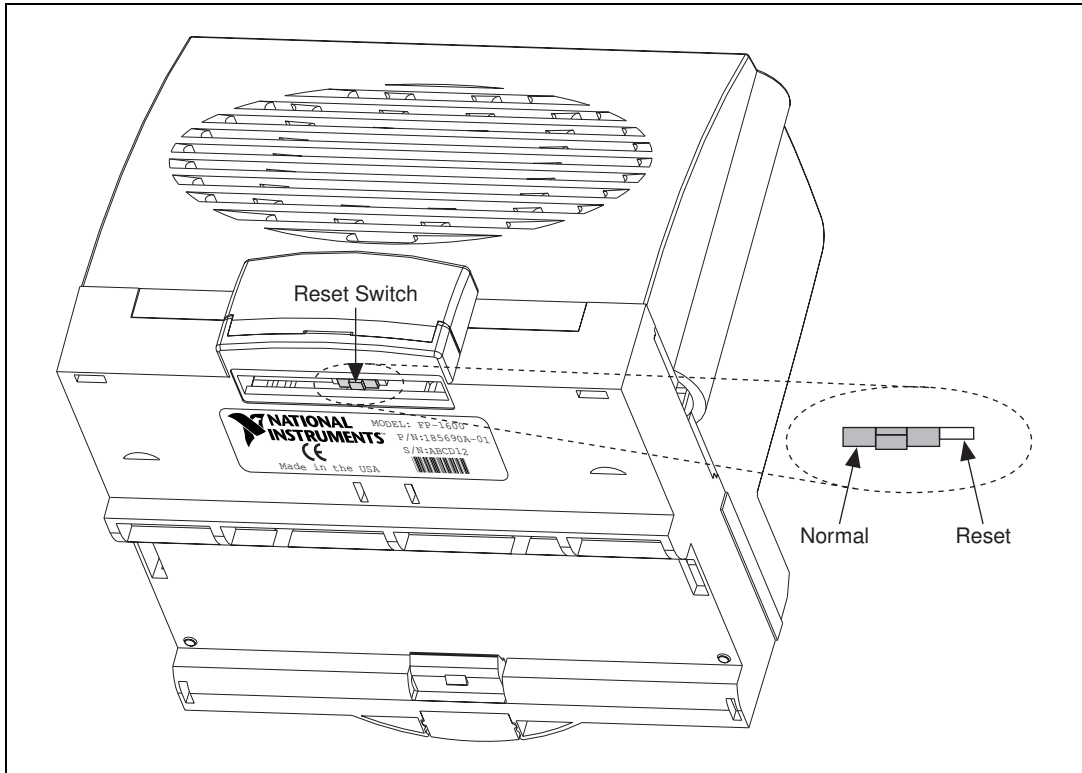

Figure A-1. FP-1600 Reset Switch
2. Locate the slot on the bottom of the FP-1600 just above the label. Inside the slot, find the red reset switch, shown in Figure A-1.
3. Looking at the FP-1600 so that the label is upright, as shown in Figure A-1, use a pen or a small screwdriver to move the reset switch to the right.